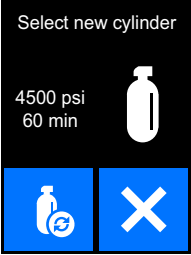

Fig. 14 Select cylinder
1. Select to confirm the currently displayed cylinder type, or select to open the **Select new cylinder** screen (Fig. 14).